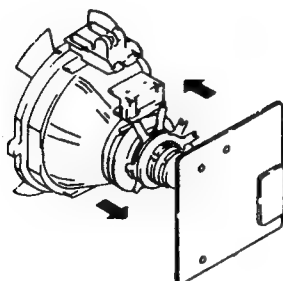

Fig.3-1
(Fig. 3-1 ~ 3-3)
4. Move the deflection yoke forward, and adjust so that the entire screen becomes red.(Fig. 3-1)